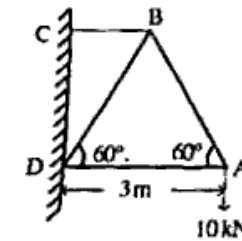

Figure 4
- d) A cantilever truss of 3m span is loaded as shown in figure 4. Find the forces in the various members of the framed truss. 8